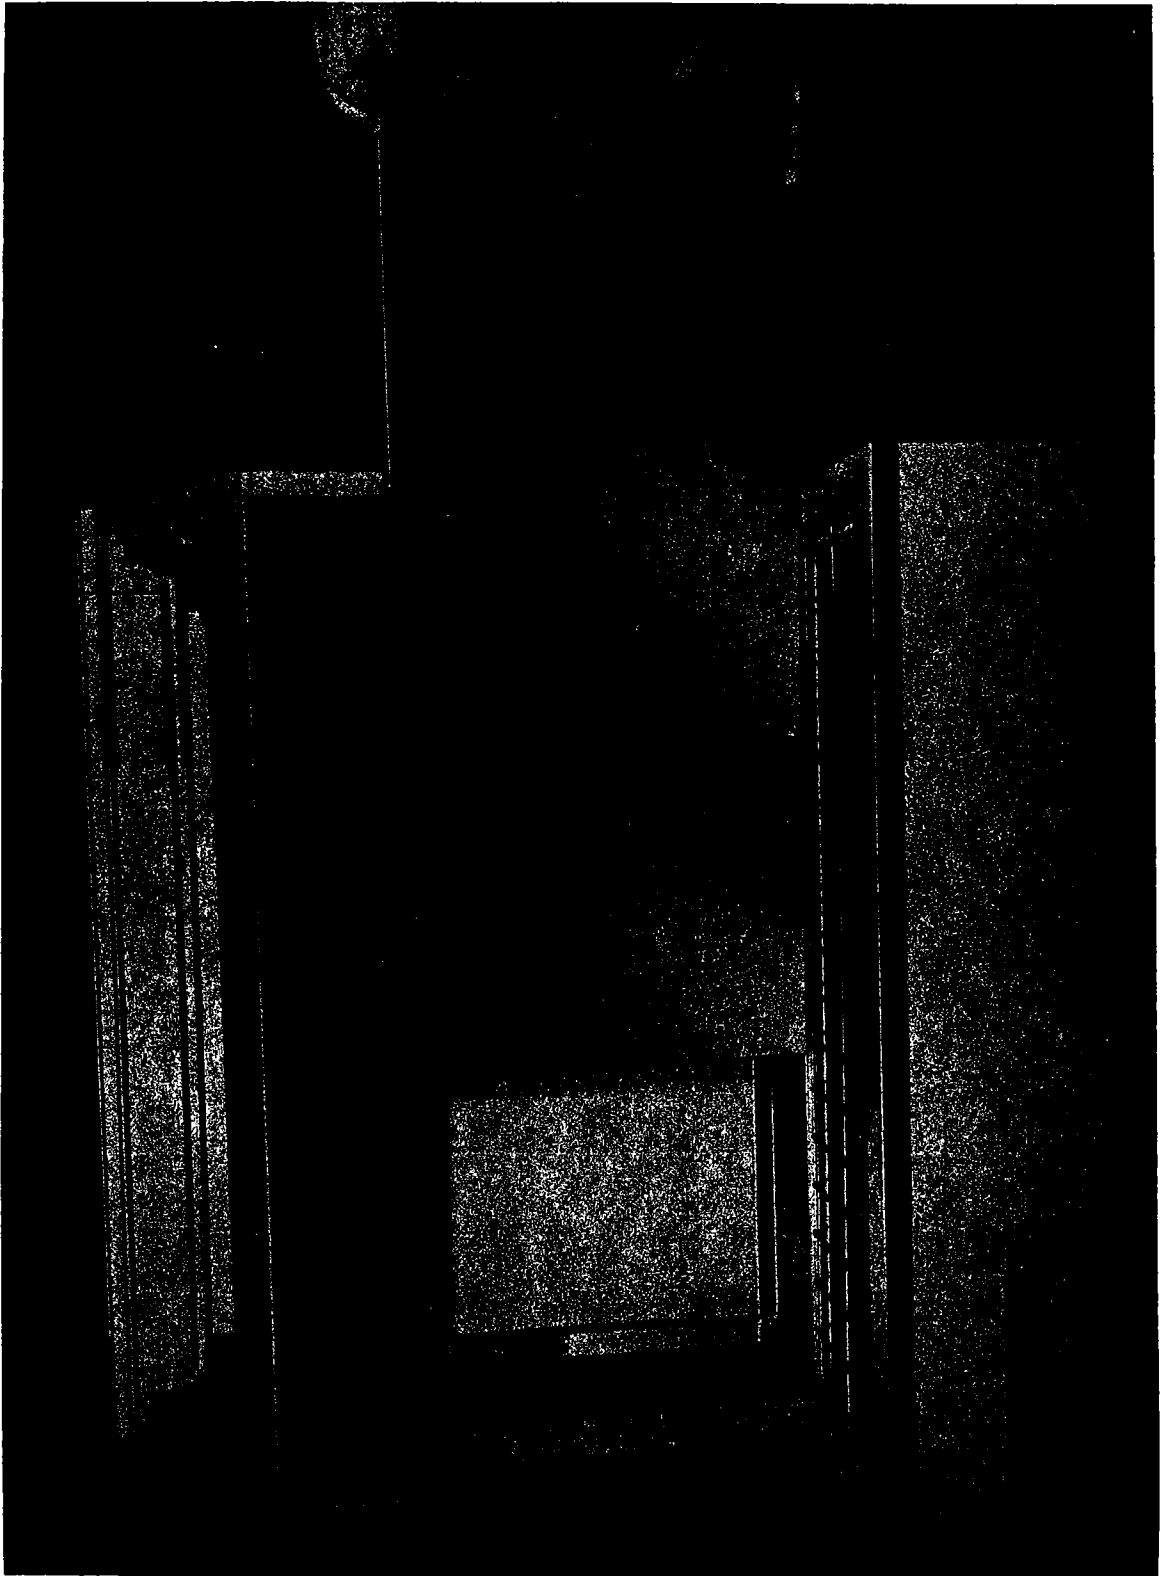

FIG. 14
When thoroughly cleaning the Dispenser bin storage area, it is necessary to remove the storage bin access covers. To remove these panels, proceed as follows and refer to Figures 14 and 15.
2. Slide the panel out as indicated in Fig. 14.